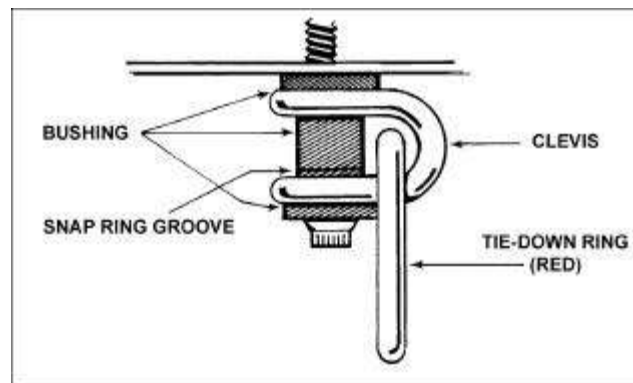

Figure 3-14. Primary snaplink attaching point.
(1) *Primary anchor points.* Ties a bowline with a half hitch about 4 feet from the standing end of the rope. Attaches the two primary snaplinks to the respective cabin tie-down fitting ring with gates facing in the opposite directions (Figures 3-14 and 3-16)